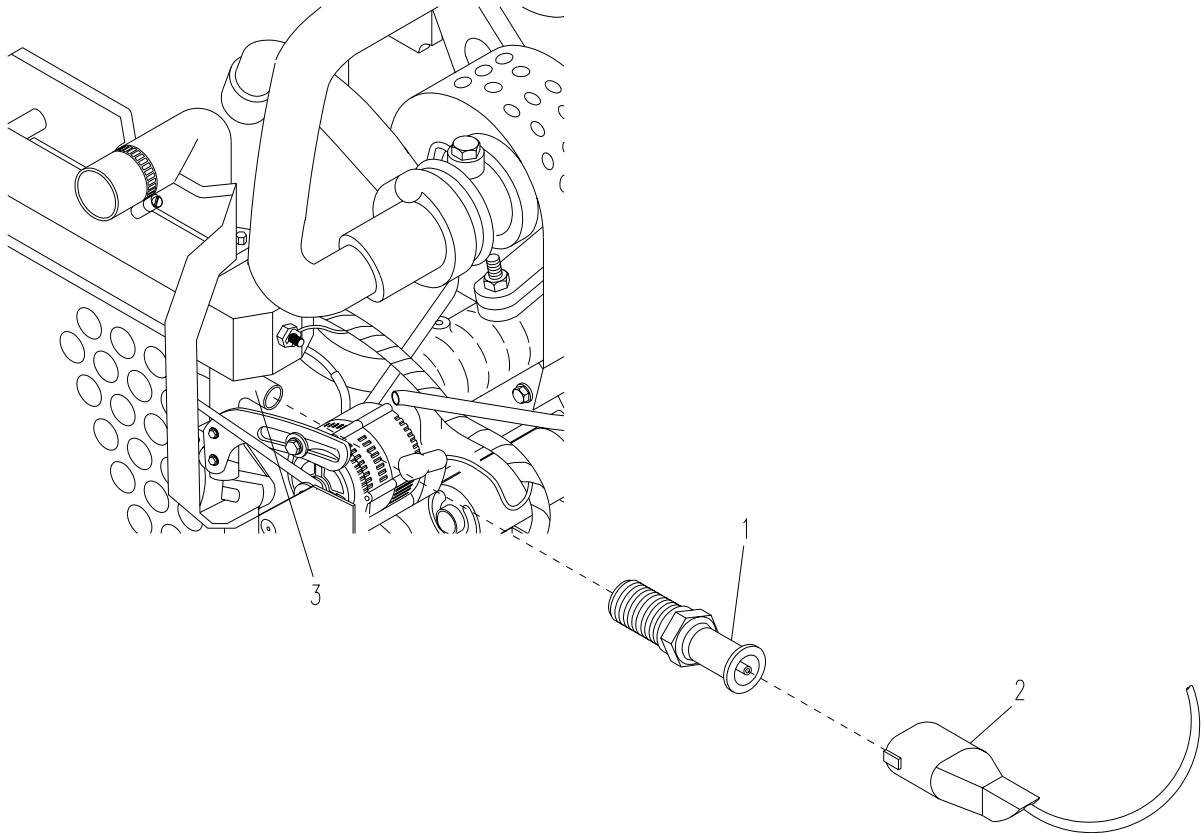

Figure 4-13. Temperature Switch
- a. Squeeze sides and remove electrical lead (2, Figure 4-13) from temperature switch (1).
- b. Remove temperature switch (1) from water flange (3).
- c. Place lead of multimeter on each end of temperature switch (1) and test for no continuity. If continuity is observed, switch is faulty. Replace switch.